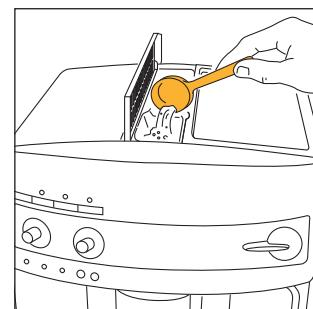

Fig. 19
2. Lift the lid in the centre, insert the pre-ground coffee measure in the funnel (see fig. 19) and proceed as described in paragraph 5. NB: You can make just one coffee at a time by pressing the  button.